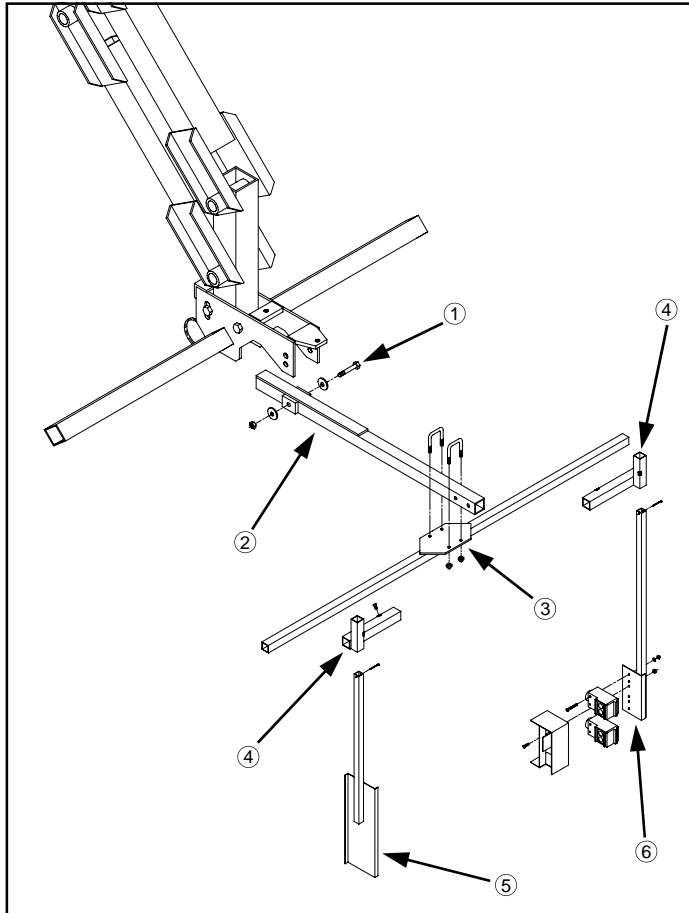

FIG 3.25
1. Install Tasselrol[®]/LS sensor arm weldment with the two nylon washers in the bottom hole in the tool bar (fig. 3.25, item 2).
2. Install the Tasselrol[®]/LS cross tube weldment (fig. 3.25, item 3) to the sensor arm.
3. Install the left and right slide mount weldments (fig. 3.25, item 4) to the cross tube weldment.
4. Install the Tasselrol[®]/LS reflector mount (fig. 3.25, item 5) and sensor mount (fig. 3.25, item 6) to the slide mount weldments.